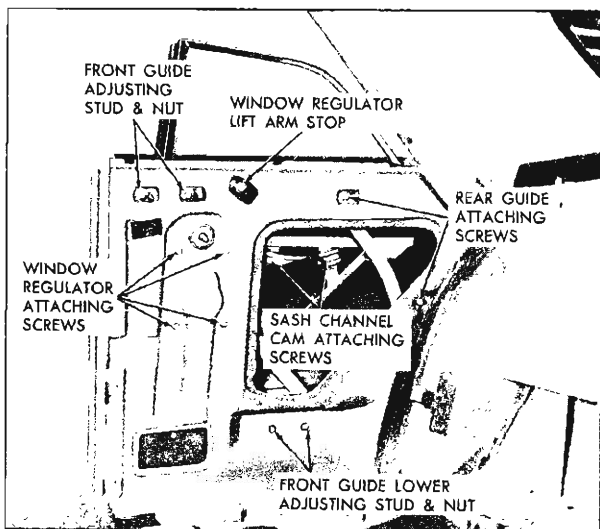

Fig. 64—Rear Quarter Hardware—47 Style—Manual
2. Remove rear quarter window rear guide attaching screw (fig. 64). Disengage rear guide from roller on window lower sash channel and remove guide.
3. With the rear quarter window in the half-down position, remove the lower sash channel cam attaching screws (fig. 64). Detach cam from roller on regulator arm and remove cam.
4. Remove rear quarter window front guide adjusting stud nuts (fig. 64).
2. To adjust the window fore or aft, loosen the front and rear guide attaching stud nuts (fig. 64). Position the window and guides fore or aft as required; then tighten the attaching stud nuts.
3. To adjust the rear quarter window in or out, loosen the front guide upper attaching stud nuts (fig. 64). Adjust the studs in or out as required; then tighten the stud nuts.
4. To adjust the top of the rear quarter window in or out, loosen the front guide lower attaching stud nut (fig. 64). Adjust the stud in or out as required then tighten the stud nut.
5. To relieve a binding condition between the channels of the front and rear guide, loosen the front and rear guide adjusting stud nuts (fig. 64). Operate window to full up position and tighten upper stud nuts on the front guide and forward attaching screw on rear guide. Operate window to full down and tighten remaining nuts.
6. To limit the forward and upward travel of the rear quarter window, adjust the regulator lift arm stop as required (fig. 64).
2. Remove rear quarter window regulator attaching screws (fig. 64); then remove regulator assembly through large access hole.
2. With window in "up" position, remove the window front guide upper and lower attaching stud nuts (fig. 64).
2. With the window in the "up" position remove the window rear guide attaching screws (fig. 64). Disengage guide from roller on window lower sash channel and remove guide through access hole.